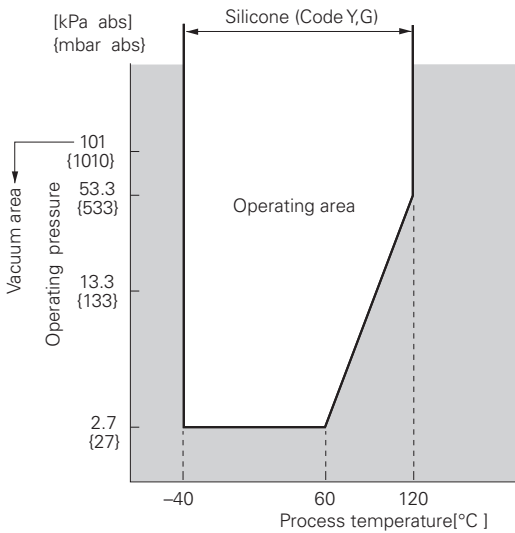

Fig. 1 Relation between process temperature and operating pressure
- Vacuum service:** Special silicone oil and filling procedure are applied. See Fig.1 and Fig.2